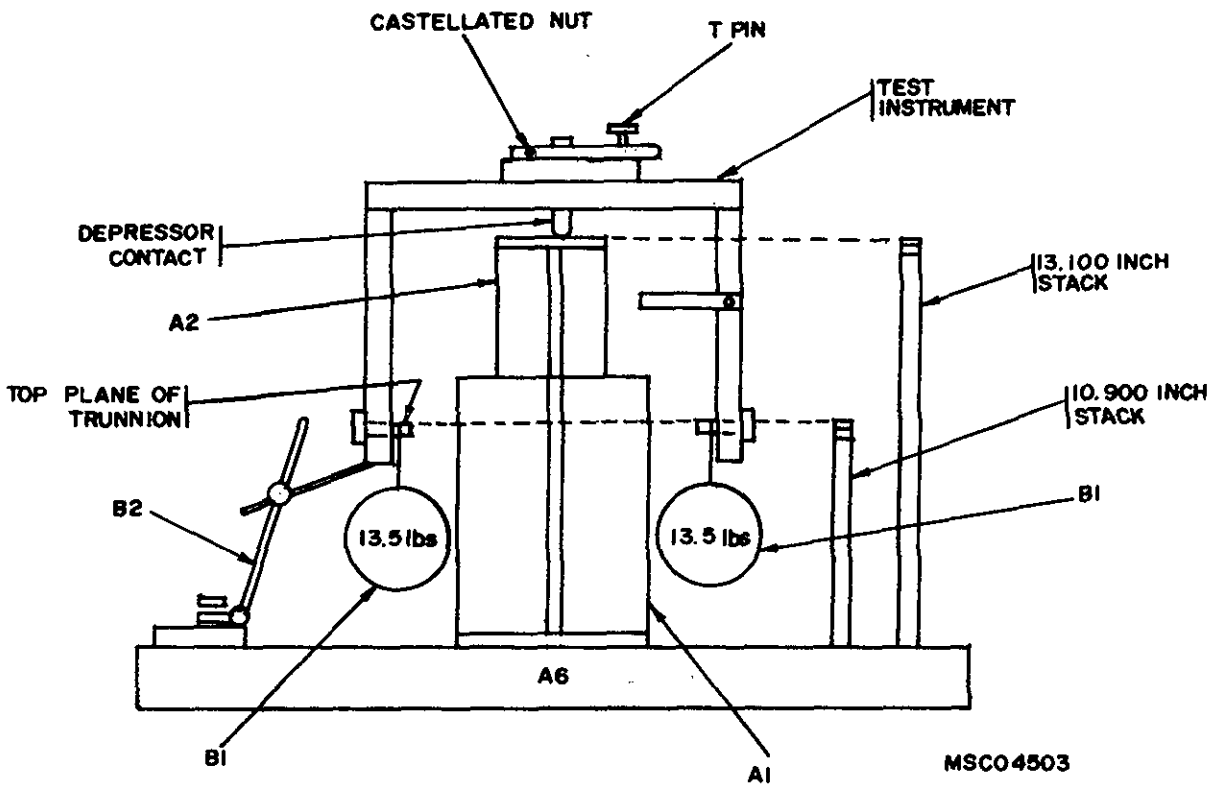

Figure B-1. Equipment setup.
- a. Prepare two 13.5  $\pm$ 0.1 lb. bags of lead shot (B1), and tie a loop at the top of each bag to permit hanging from each trunnion as shown in figure B-1.
- c. Set up equipment as shown in figure B-1 and allow to stabilize for at least 12 hours.
- d. Remove T pin (fig. B-1) and rotate TI depressor arm to upper limit (2.254 in.) position. Replace and secure T pin.
- e. Check parallelism from top planes of trunnions (fig. B-1) to surface plate (A6), using electrical height gage (A3). If parallelism is not within  $\pm$ 0.0002 inches, perform (1) through (3) below:
- (1) Determine the low side trunnion, using electrical height gage.
- (2) Position surface gage (B2) pointer under low side trunnion and, using adjustment on base, raise low side trunnion to adjust for parallelism.
- (3) Repeat (1) and (2) above until parallelism is within  $\pm$ 0.0002 inches. Do not remove or adjust surface gage after parallelism is obtained.
- (1) Perform a(6) and (7) above.
- (2) Subtract value recorded in a(7) from value recorded in a(5). If this value (travel range) is between 0.01 10 and 0.0150 inches, perform adjustments in (3) through (7) below. If travel range is not within limits, no adjustments can be made.
- (3) Determine a value that will bring both values within tolerance, and make up a gage block stack equal to the value.
- (4) Remove cotter pin from castellated nut (fig. B-1) and loosen nut.
- (5) Adjust setscrew to value determined in (3) above.
- (6) Tighten castellated nut to 5-8 in. lb, using torque wrench (B3) and replace cotter pin.
- (7) Repeat paragraph 7e and a(1) through (7) above.